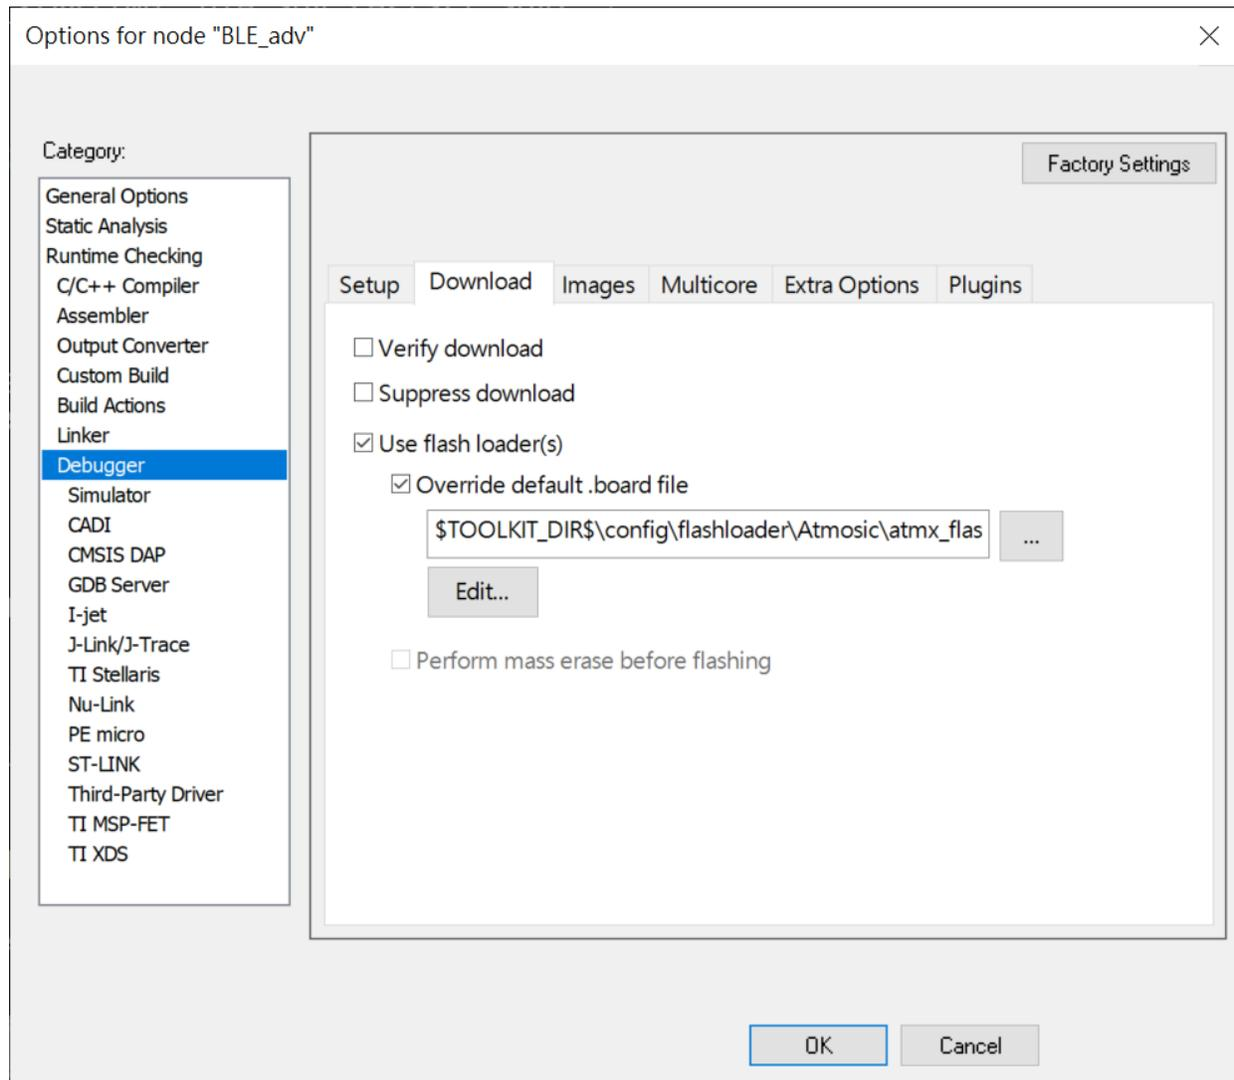

Figure 5 - Set Flash Loader
- Figure 5 - Set Flash Loader
When creating a new IAR project, it needs to override the default .board file. The PATH is \$TOOLKIT\_DIR\$\config\flashloader\Atmosic\atmx\_flash.board. See Figure 5.